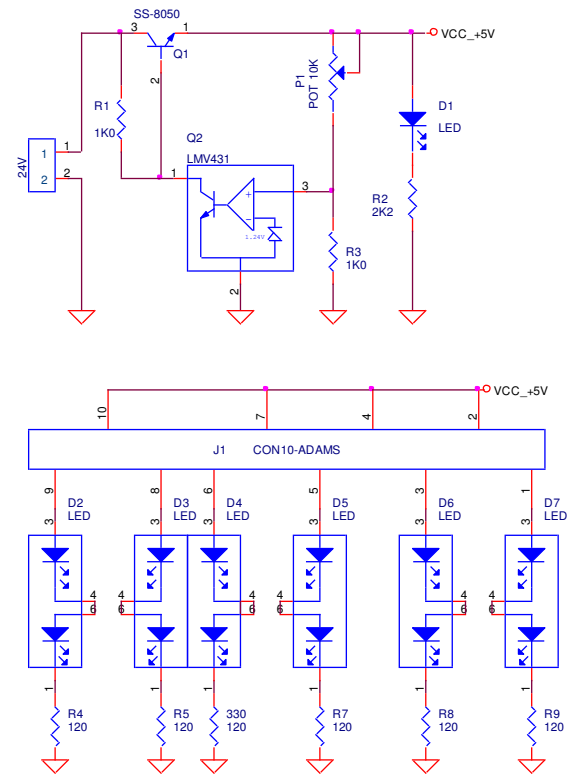

Fig.3. The digital output states
- Red and green LED's, one for each channel 2 and 3, which indicate by green LED on the closed contact and by red LED on the open contact. The electronic schematic of the outputs modules is presented in figure 3.